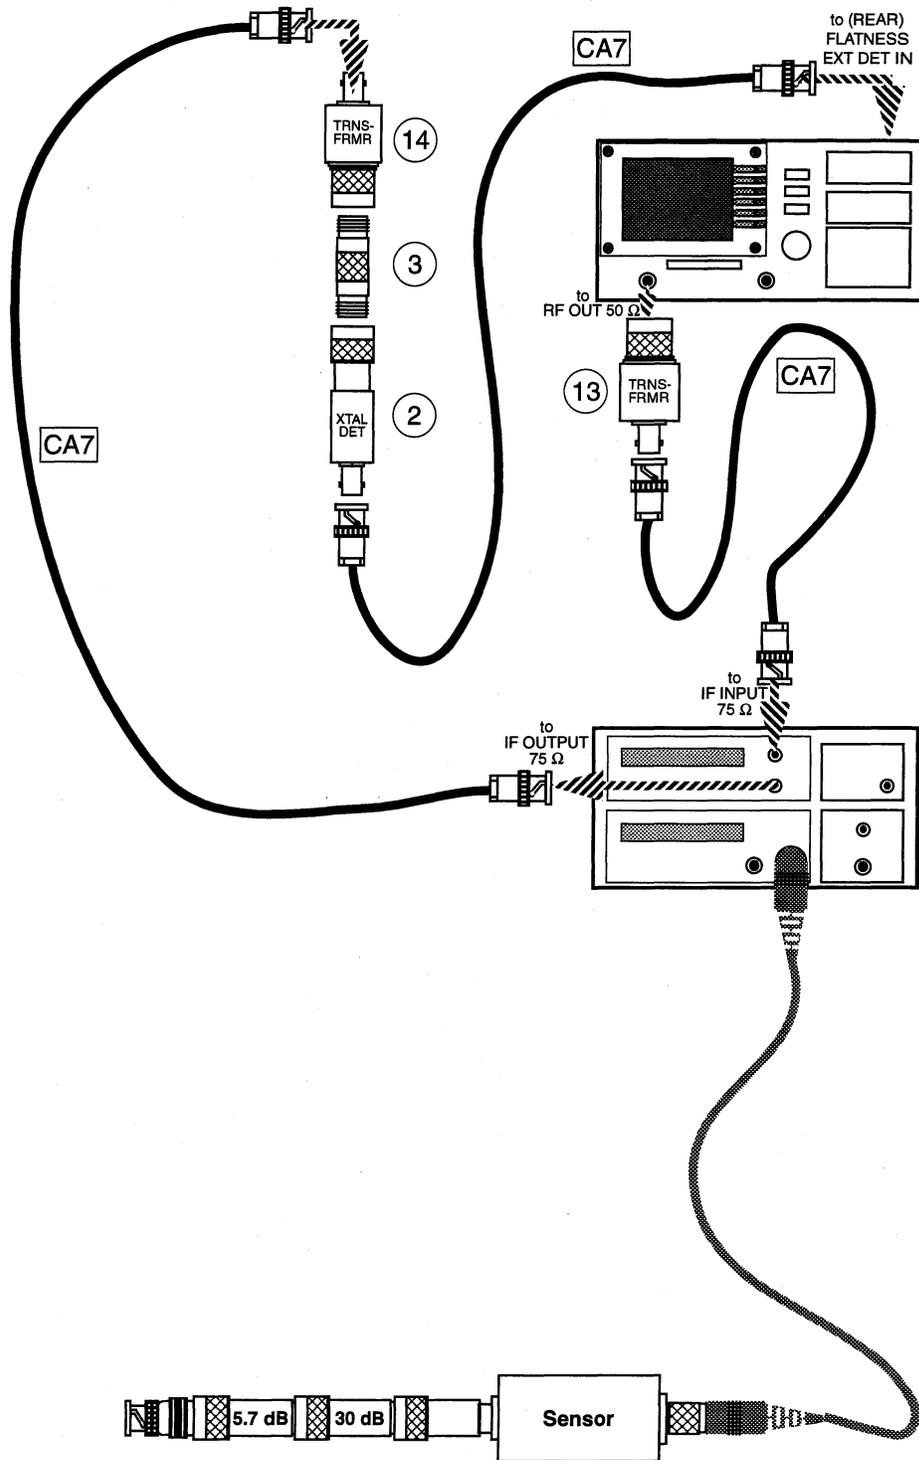

Figure 22. Calibrate Test Equipment Back-to-Back
- 8 Change test connections to those shown in Figure 22.